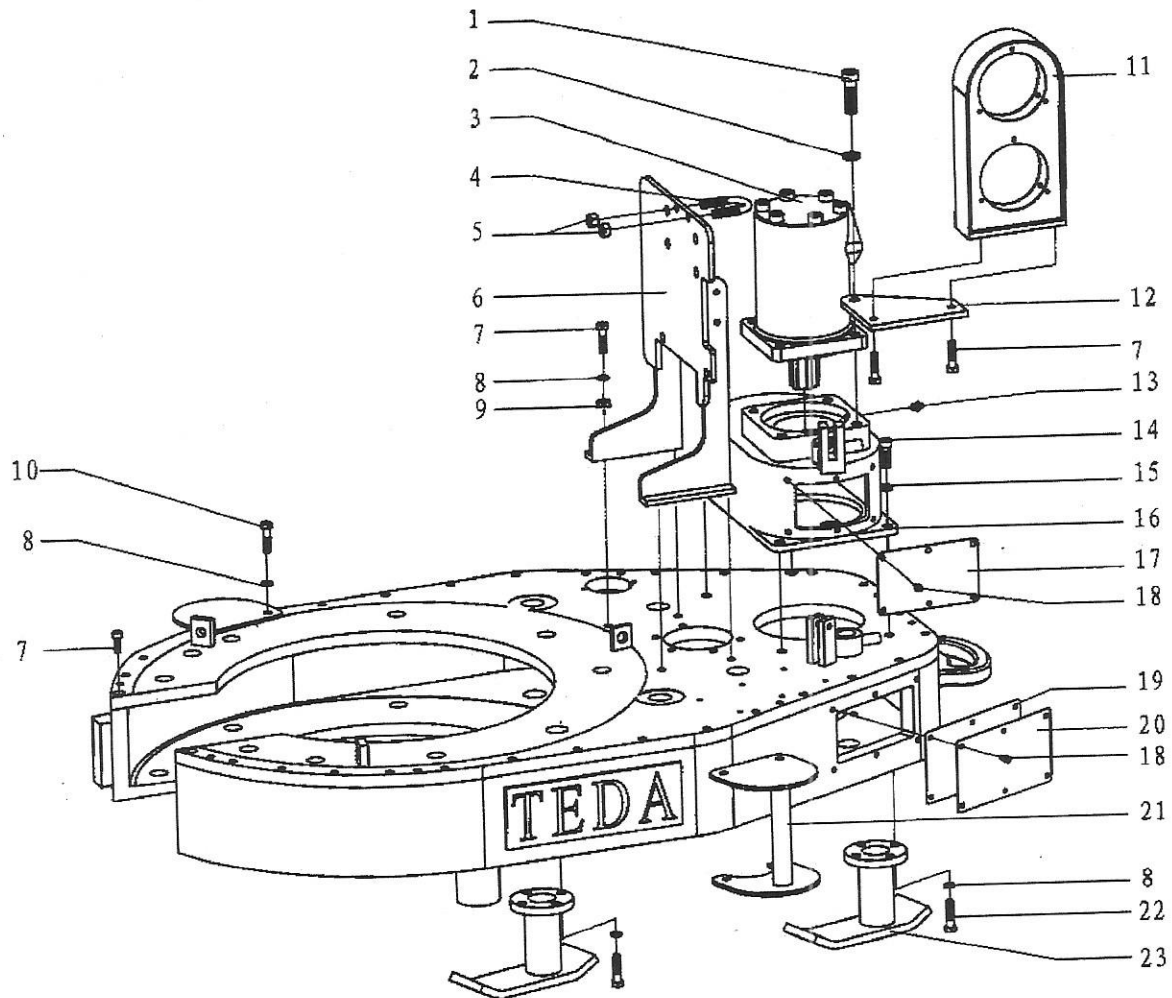

Fig. 8
5. Shell and accessories II (Fig 8, Table 5)